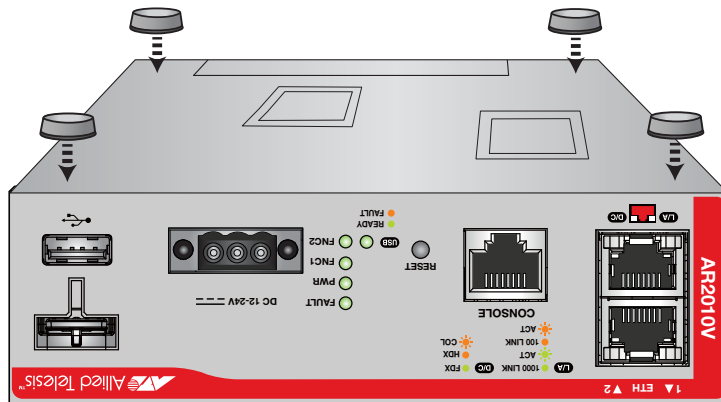

Figure 21. Attaching the rubber feet
3. Remove the adhesive rubber feet from the packaging and press them firmly onto the base of the router, as shown in Figure 21.